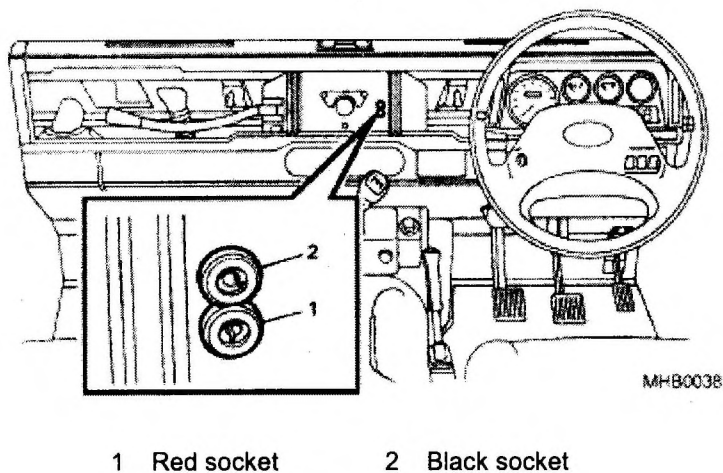

Fig 18 Inspection sockets
37 The inspection sockets are located to the right of the main lighting switch and are for the purpose of providing power for an inspection lamp. The red socket (Fig 18 (2)) is live and the black socket (1) is to earth.